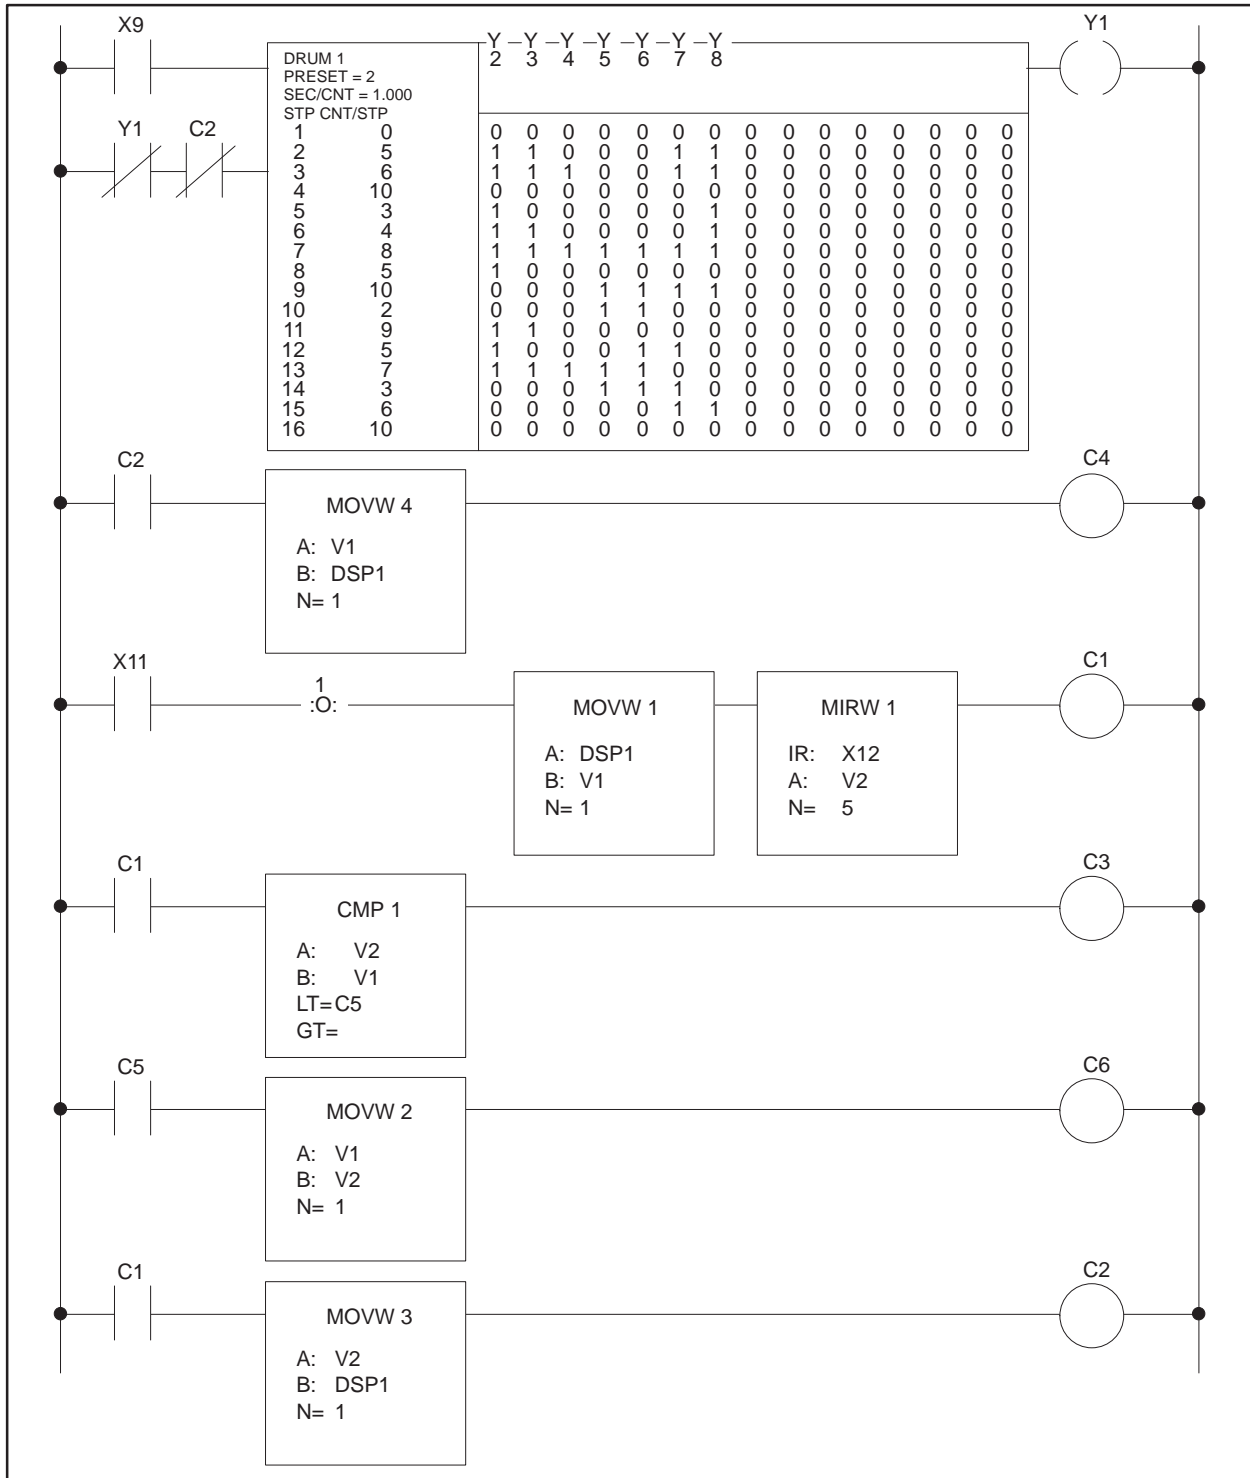

Figure E-13 RLL for DRUM Application Example
**DRUM Application Example** A time-based drum with two programmed modes controls the operation of a machine. Mode 1: the drum indexes through the programmed steps in the normal sequence. Mode 2: the starting drum step is increased for one drum cycle, as controlled by discrete inputs. The solution is listed below, and the RLL is shown in Figure E-13.